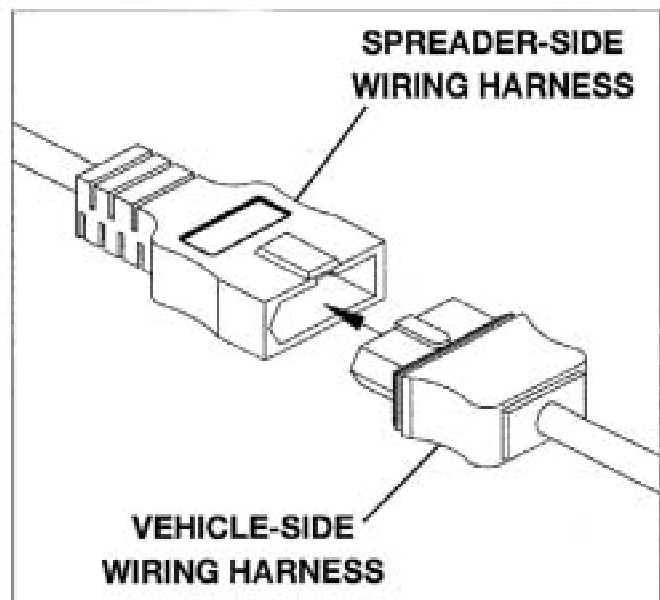

Figure 12
5. Connect spreader-side wiring harness to vehicle-side wiring harness. See Figure 12.